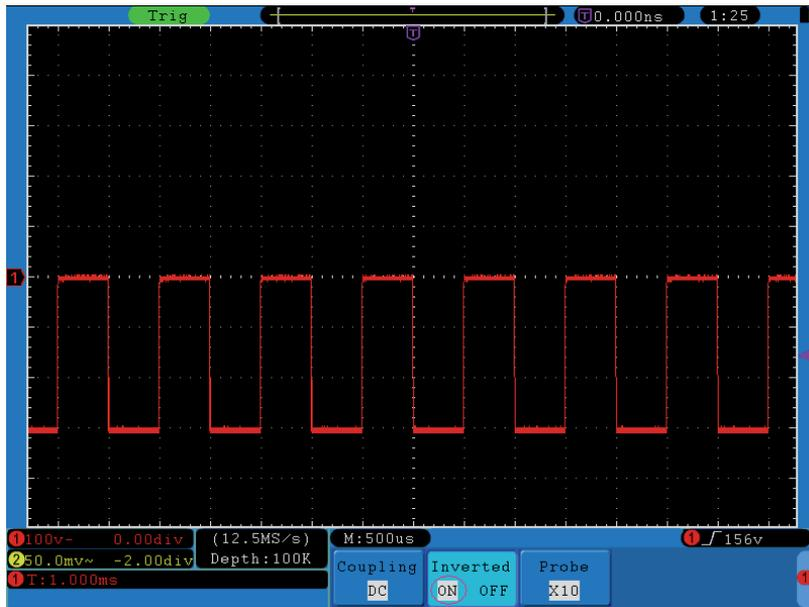

Figure 18. Inverted Waveform.
- 2 Press the **H2** menu selection button and select **ON** for **Inverted** item. The waveform is inverted as it is shown in Figure 18.